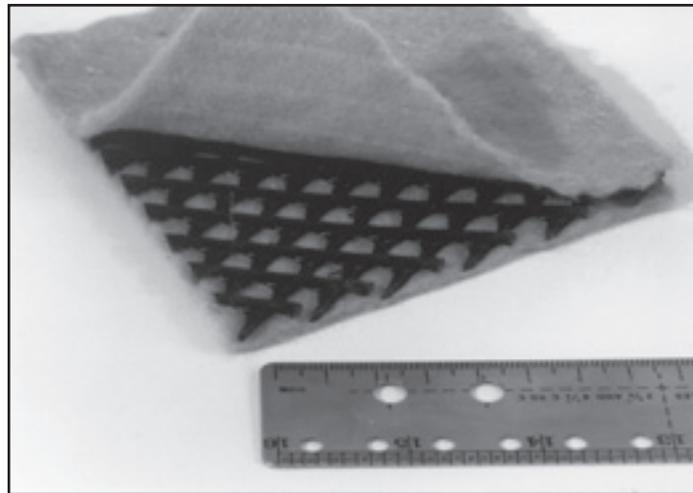

Figure 36—The net-like core of geonet allows water to drain through it.
**Geonets** or **geonet composites** (figure 36) have a thin polyethylene drainage core that is covered on both sides with geotextile. They are used for separation, reinforcement, and drainage. Because geonets have a core plus two layers of geotextile, they provide more reinforcement than a single layer of geotextile.